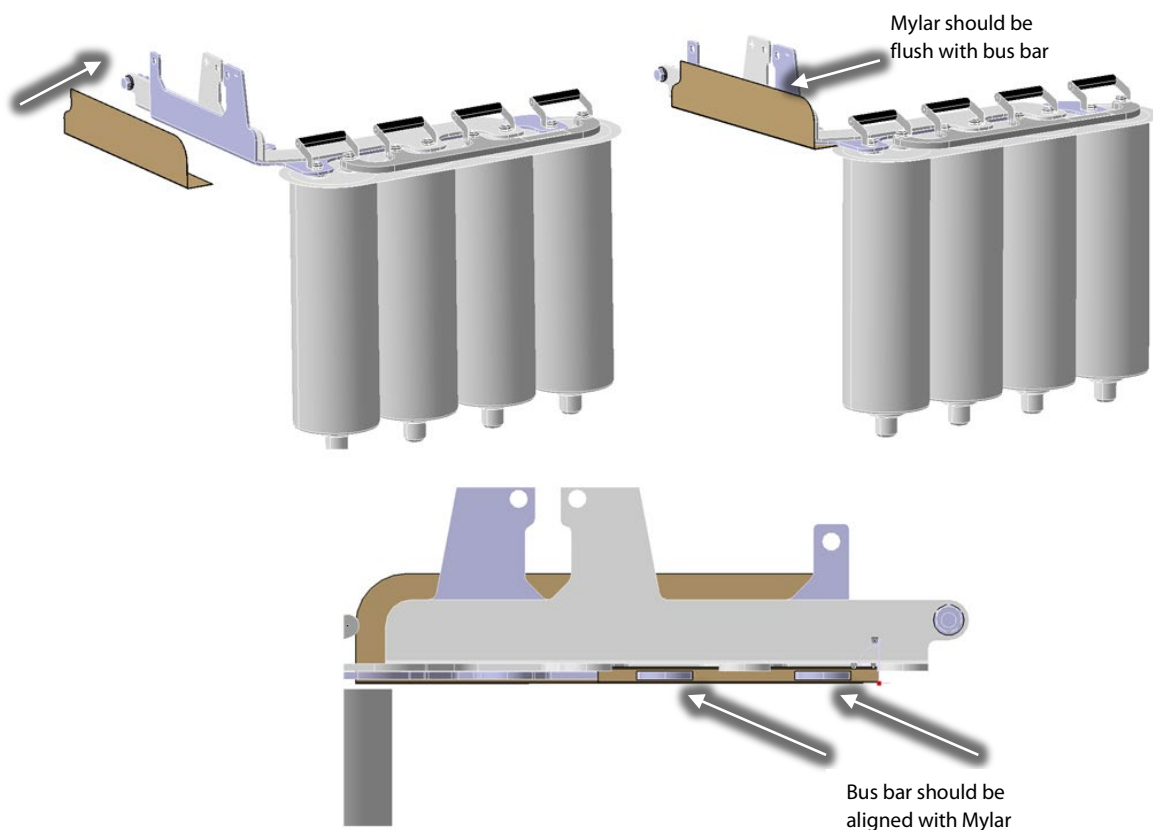

Figure 26 – DC Bus Bar Spare Mylar Placement
9. Install the provided Inverter fasteners in a diagonal pattern and torque to 3 Nm (27 in.lb.) on the first pass then to 7 Nm (62 in.lb.) on the second pass. Refer to Figure 26 (Inverter Screw Locations).